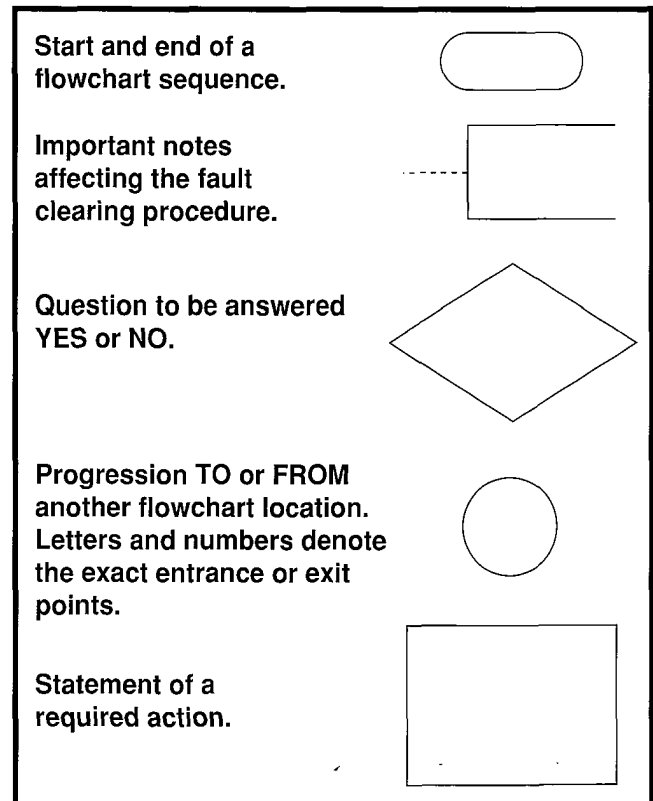

FIGURE 1—FLOWCHART SYMBOLS
3.04 Five symbols are used in the flowcharts, which are identified in Figure 1.